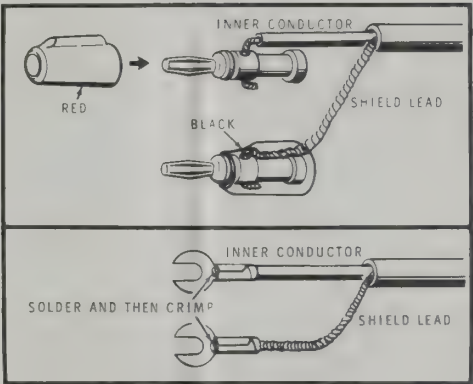

Figure 5
- ( ) Two types of output connectors have been supplied with your Probe. Determine which type will work best with your Oscilloscope. Then refer to Figure 5 and install either the banana plugs or spade lugs.